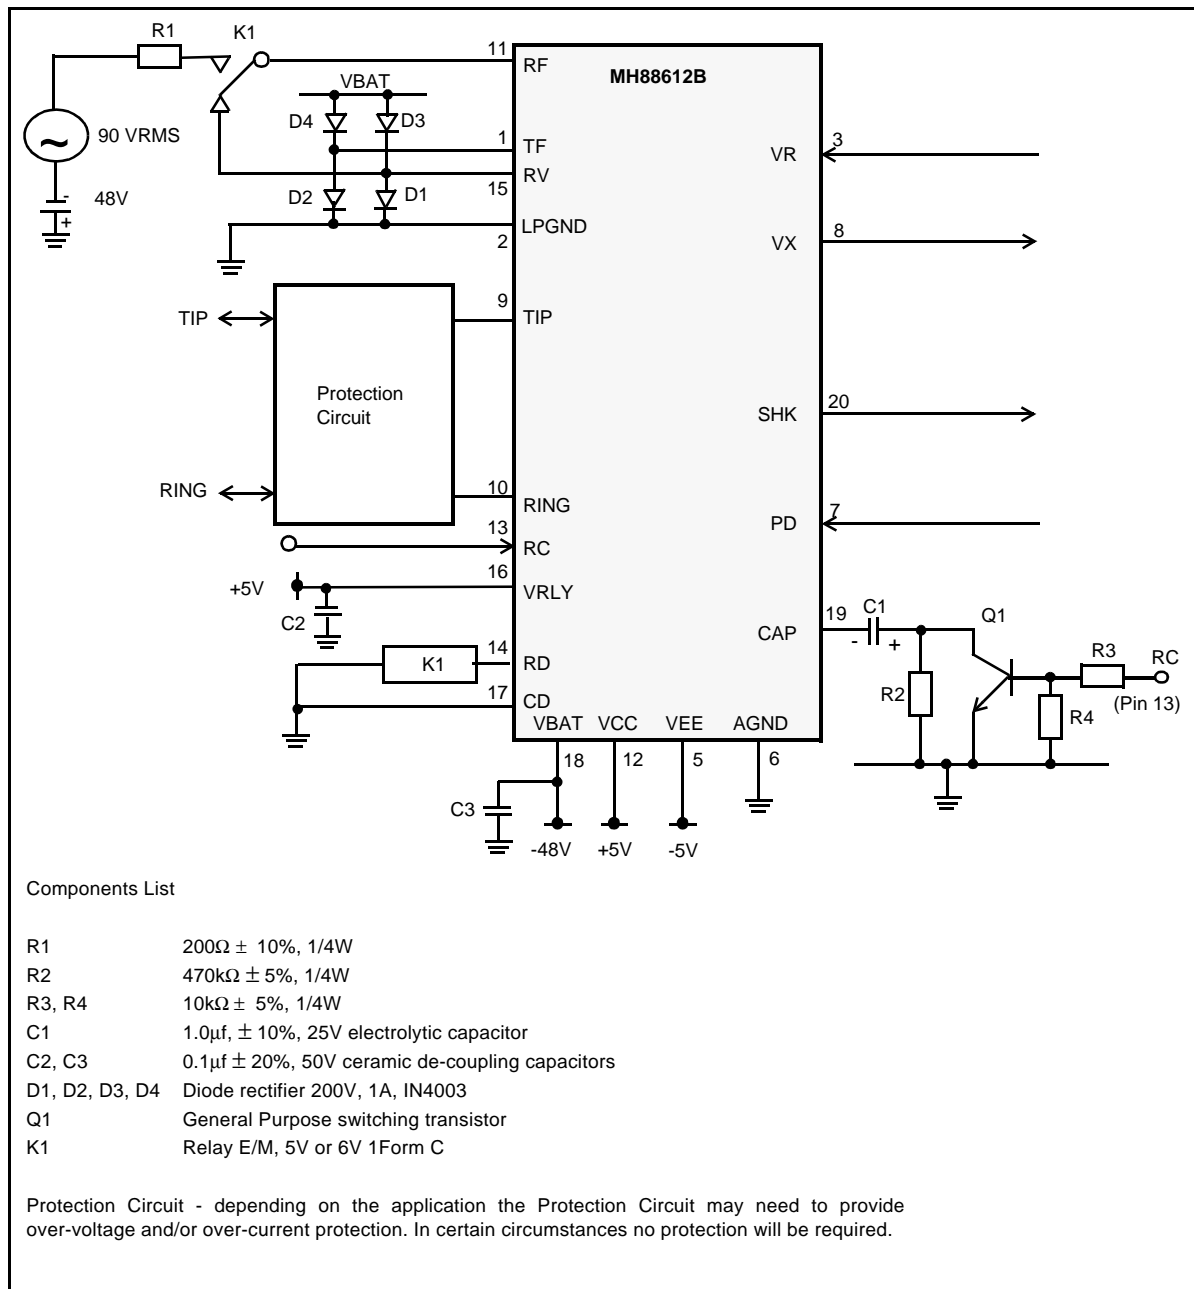

Figure 3 - Application Circuit
In Figure 3 a ringing signal (eg. 90 Vrms and -48Vdc) is applied to the line by disconnecting pin 15 (RV) from pin 11(RF), and connecting the ringing voltage at pin 11 (RF) by use of the relay K1.